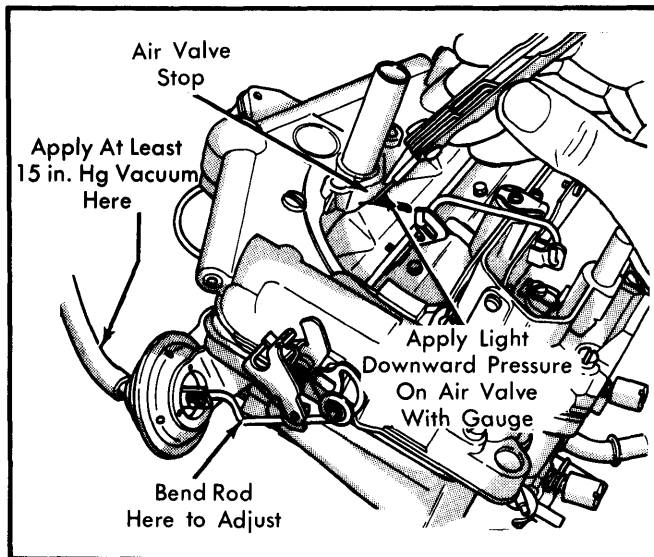

Fig. 7 Adjusting Choke Diaphragm Connector Rod
1) Make sure diaphragm is securely mounted to carburetor. Using an outside vacuum source, apply at least 15 in. of Hg vacuum to diaphragm. Make sure diaphragm stem is fully seated. See Fig. 7.